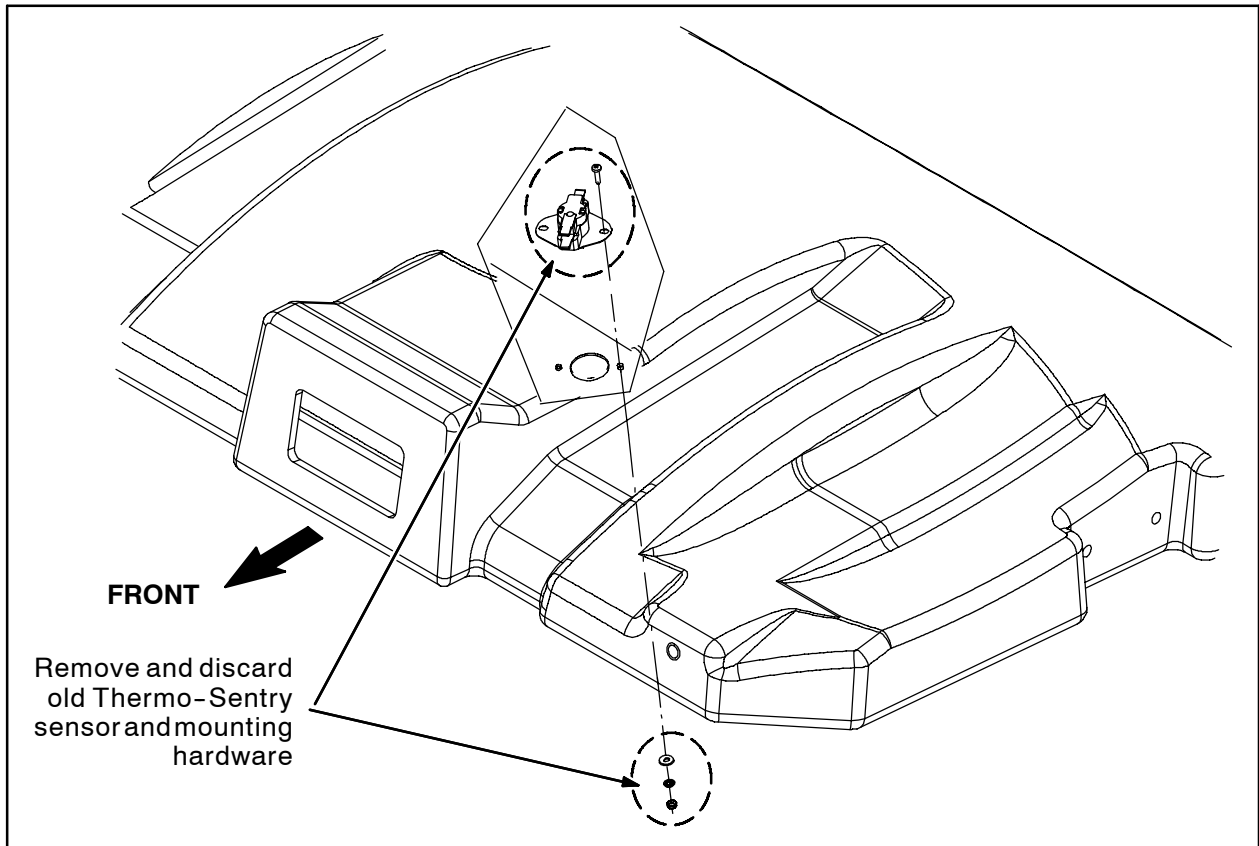

FIG. 2
1. Disconnect the wire harness inside the hopper filter cover from the Thermo-Sentry sensor and remove the Thermo-Sentry sensor from the hopper filter cover. Discard the Thermo-Sentry sensor and hardware. Refer to Fig. 2.